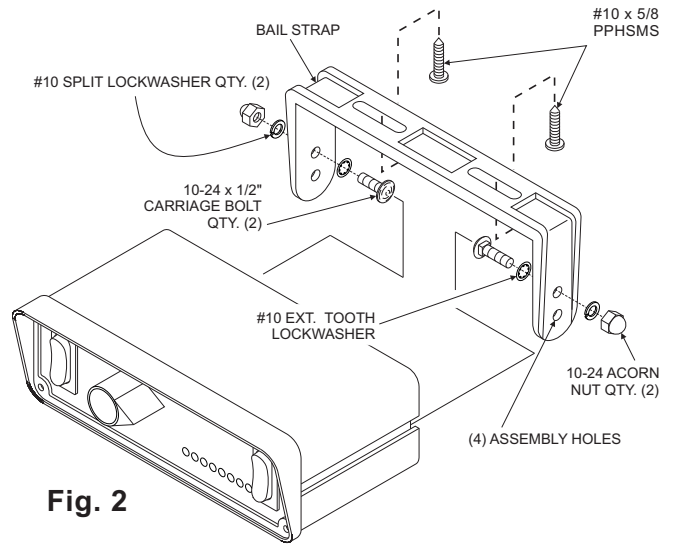

Fig. 2
NOTE: There are two sets of holes on either side of the bail strap that can be used when installing the TACTL6, to position the control head at two different heights (see Fig. 2).
4. With the bail strap in place, insert the carriage bolt along with the external tooth lockwasher (supplied) into the assembly hole from the inner side of the Bail Strap as shown in Figure 2.